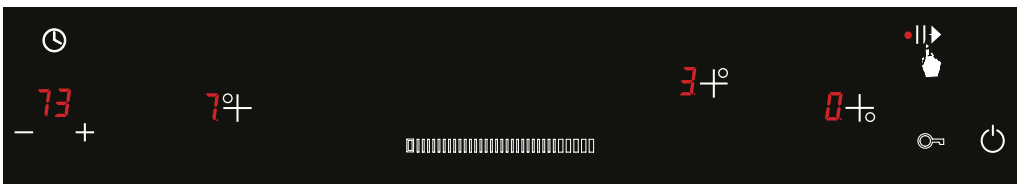

Figure 20
2. **Stop/start** (||▶) key allows selecting the hobs and stopping the timer. (See Fig. 20)